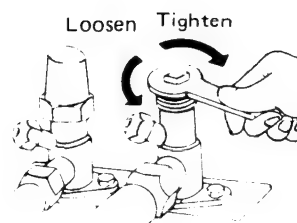

Fig. 33
- d) After 45 seconds, fasten the flare nut (A) of wide tube tightly as it was. Fig. 33